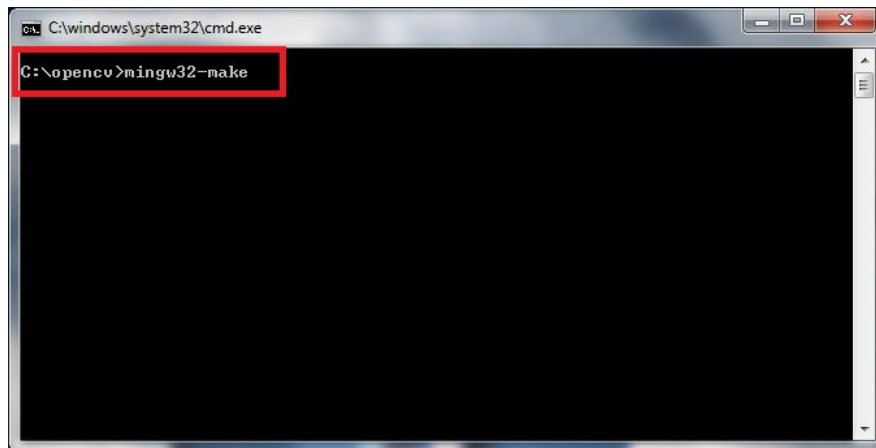

Figure 4-30. Starting the OpenCV Build Process
20. Navigate to the OpenCV build path that was given to Cmake in step 13. From this path, run the command "mingw32-make" as shown in Figure 4-30. **Note:** If the command "mingw32-make" is not recognized, try using the command "make." This is dependent on the naming of the make.exe file installed with Qt Creator.